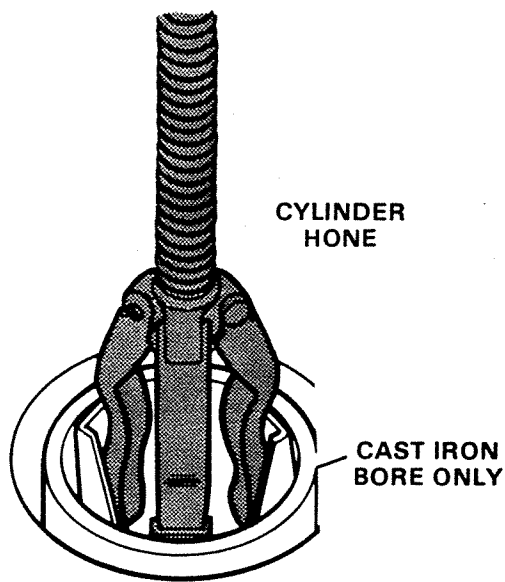

Figure 16. Honing Cylinders.
- D. If cast iron (only) cylinder bore is within wear tolerance, but slightly scored, hone with a fine stone cylinder hone. Figure 16.